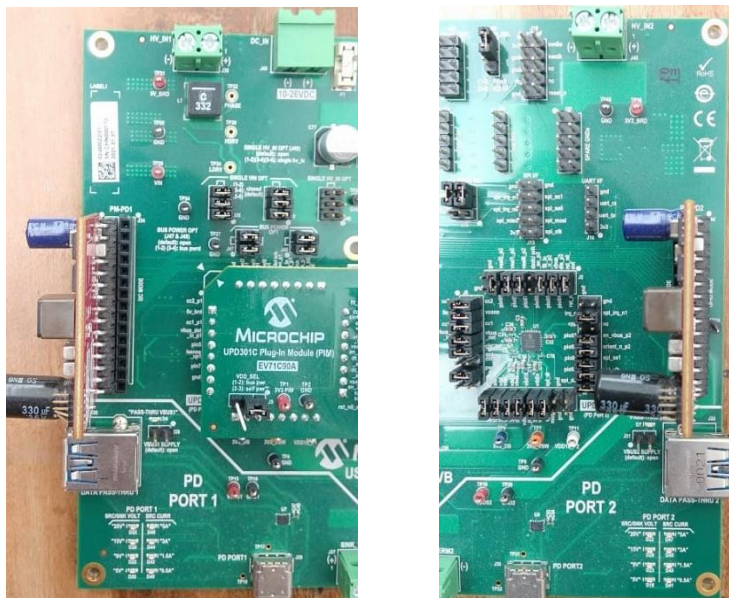

Figure 5.1 PM-PD Orientation
1. Connect PM-PD cards to J35 and J44 of the EVB-PSF in correct orientation as shown in Figure 5.1.